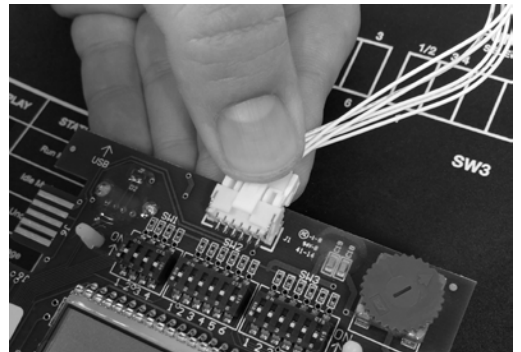

Figure 5
6. Reconnect the wire harness on the display board. Slightly tug on the wire harness to make sure the wire harness is fully seated (Figure 5).